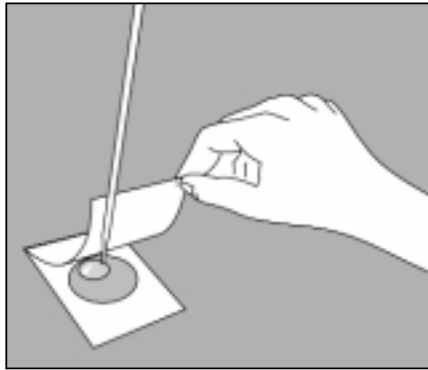

Figure 3
3. With pipet perpendicular to the Petrifilm plate, place 1 mL of sample onto the center of the bottom film (fig. 3). If necessary, samples can be diluted with distilled water, liquid culture medium, or buffers with pH between 6.6 and 7.2.\* If antibiotics are to be added to the medium, add them to the inoculating liquid at the working concentration.